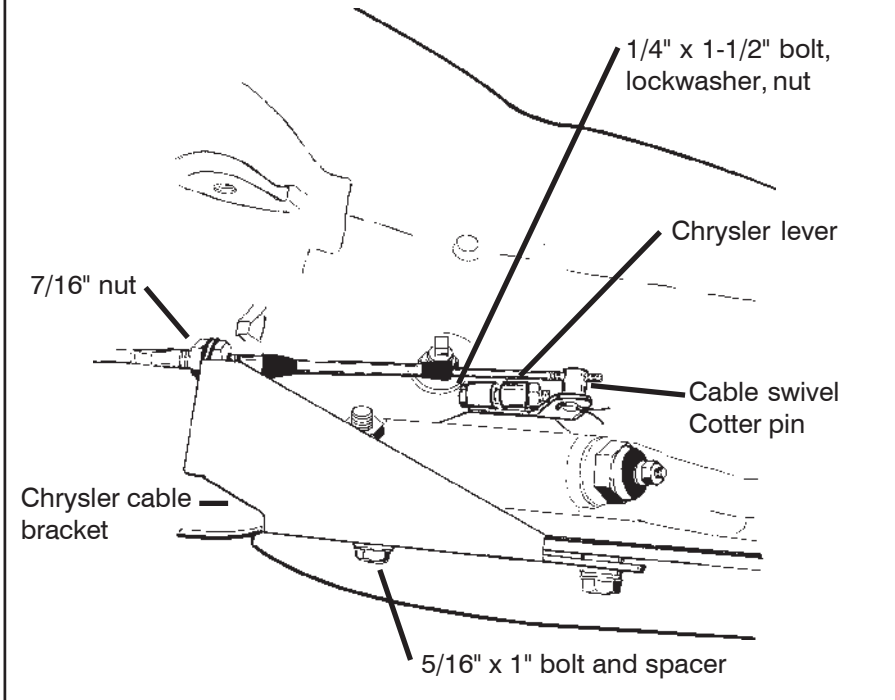

Figure 8
STEP 21. If you have not already done so, loosen pinch bolt on throttle lever on transmission. This is the lever on the small diameter shaft. Pry the lever off with a screwdriver and allow linkage to hang free. Remove and discard stock shift lever and stock shift linkage. Install B&M selector lever in position and tighten pinch bolt securely, (See **figure 8**). Make sure lever is not pushed down so far as to touch the transmission case. This will cause the lever to bind on the case. The lever should travel smoothly from front to back with a positive click in each gear position. Install stock throttle lever in position on small diameter shaft as removed and tighten pinch bolt securely. Throttle lever must operate smoothly.
STEP 22. Remove the two transmission oil pan bolts directly below the shift lever. Install cable bracket in position, (See **figure 8**), with two spacers between the pan and bracket. (If your transmission is equipped with a cast aluminum oil pan these spacers can be omitted.) Install the two 5/16-18 x 1.00" pan bolts supplied and tighten to 12-13 ft. lbs. Do not overtighten